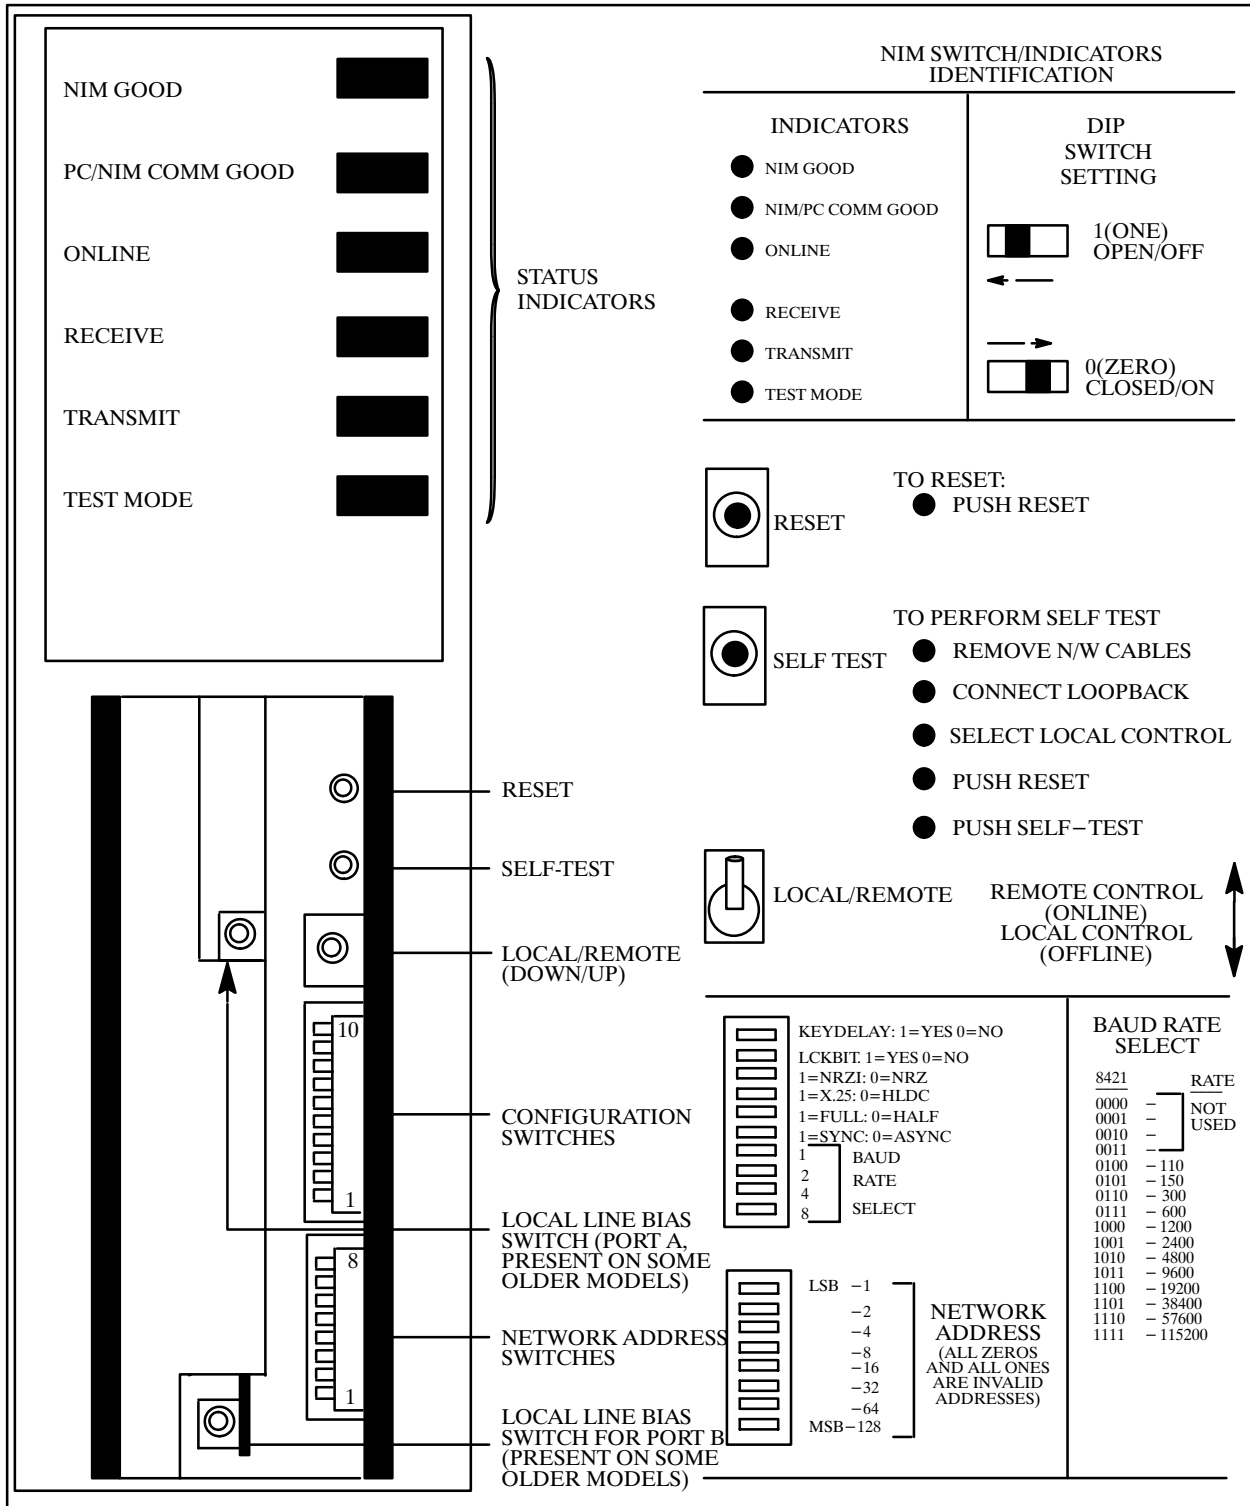

Figure 3-3 NIM Switches and LEDs
As Figure 3-3 illustrates, there are two blocks of dipswitches on the Series 500 NIM. The lower block of eight switches is used to select the NIM's address on the network. The upper block of ten switches is used to configure the network communication parameters. Note that the switches are numbered from bottom to top. When setting up your NIM, use the configuration data sheet in Appendix C of this manual to record important configuration information.
- Any time the Reset switch is pressed (See Figure 3-3)